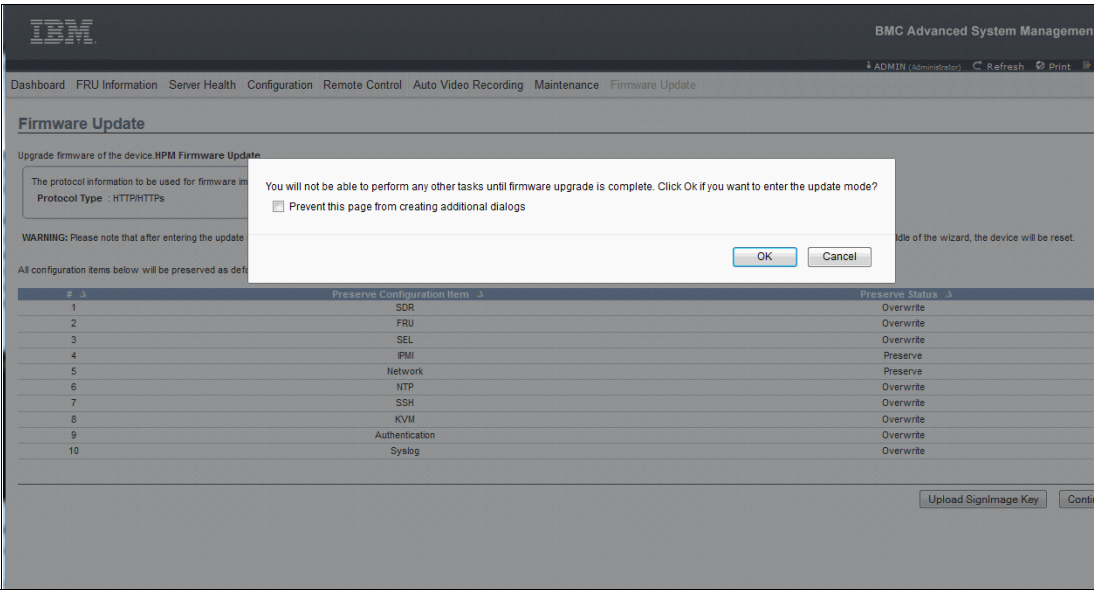

Figure 2-4 Confirm firmware update mode
4. The next window prompts whether you want to continue to the update mode, as shown in Figure 2-4. Until the firmware update is completed, no other activities can be performed in the Advanced System Management Interface. If you want to proceed, click **OK**.